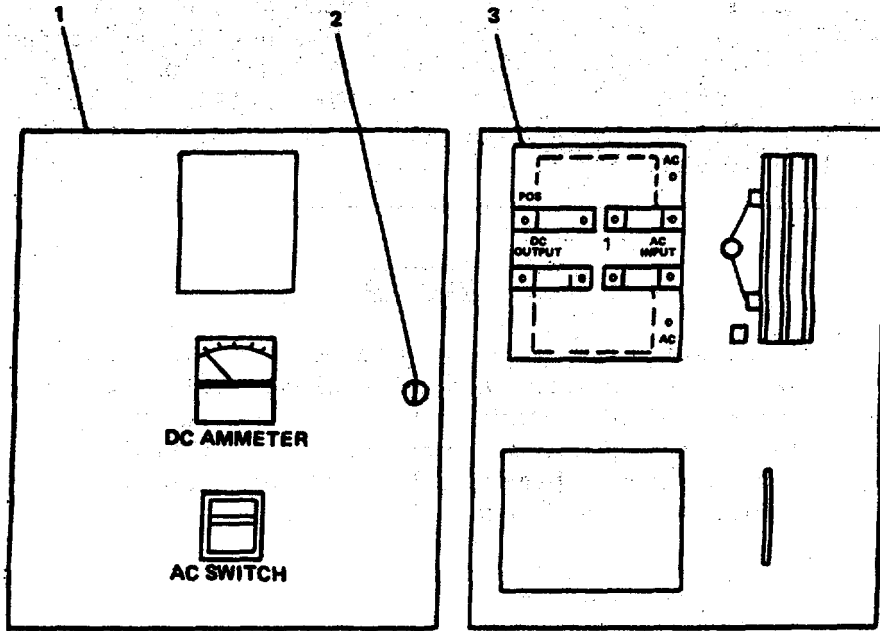

FIGURE 3-163. Battery Charger Repair.
**3-180. Repair Emergency Switchboard Battery Charger. (Figure 3-163)**